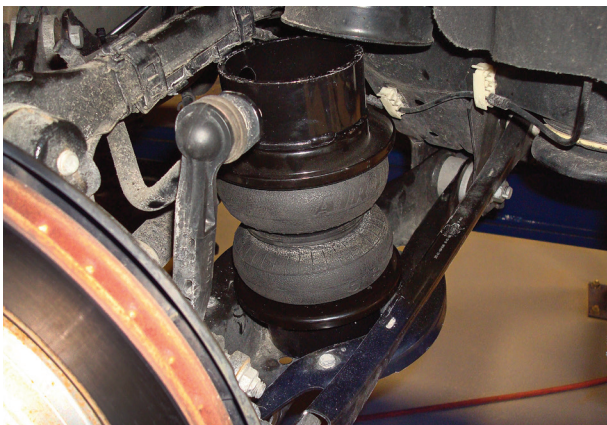

Fig. 16
3. Place the air spring assembly into the lower control arm. Rotate the assembly until the lower bracket (H) is aligned with the coil spring seat (Figs. 16 & 17).